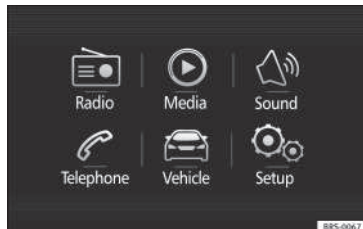

Fig. 37 Easy Connect: Main menu.
- Press the system's **MENU** button and then the function button **Vehicle** » Fig. 37, or the system's **CAR** button to go to the menu **Vehicle** » Fig. 38.